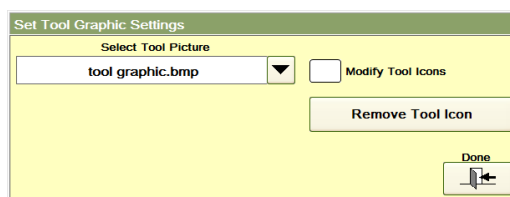

Figure 7m Set Tool Graphics Settings Tool Graphic
The user can set up a library of pictures (bmp, jpg, jpeg and wmf formats) in the D:\G24\Tool directory and select which is to be displayed with a group tab using the Graph Settings button. The image size available on the HPS-C-PRO+ screen is 1016 x 626 pixels. Pictures larger than this will be shrunk to fit without distortion. Pictures with fewer pixels will be automatically centered on the screen. Each picture can be Select the group tab button on the bottom of the screen. Choose the picture using the Select Tool Picture dropdown box shown in Figure 7m. Interactive setpoints and values can be set to appear on the picture.
- Select Modify Tool from the Set Tool Graphic Settings popup box (shown in Figure 7m) and then select Done.